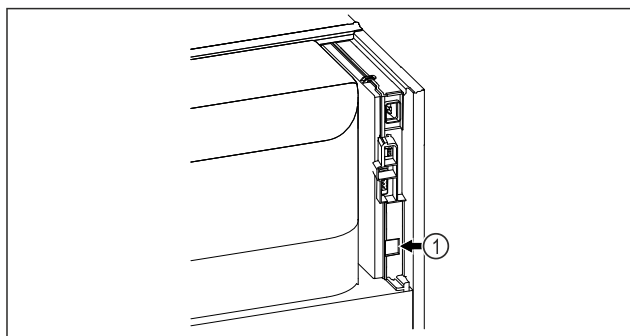

Fig. 88
- ☐ SmartModule Fig. 88 (1) is in use.